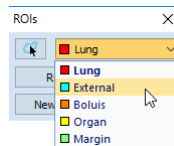

Figure 228 – Selecting the current ROI
- Click the **Select ROI...** button in the **ROIs** dialog, and select the ROI from the displayed drop-down list (see Figure 228).